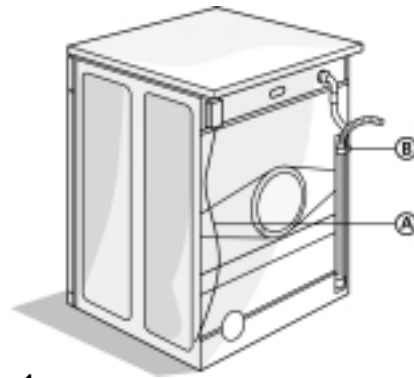

Fig. 1
a) Drain hose on rear panel of appliance, Figure 1
1. Unhook the drain hose from the left clip, see arrow A in Fig. 1.
Do NOT loosen the right drain hose connection, see arrow B in Fig. 1, otherwise there is the risk of leakage (danger of scalding with hot water).